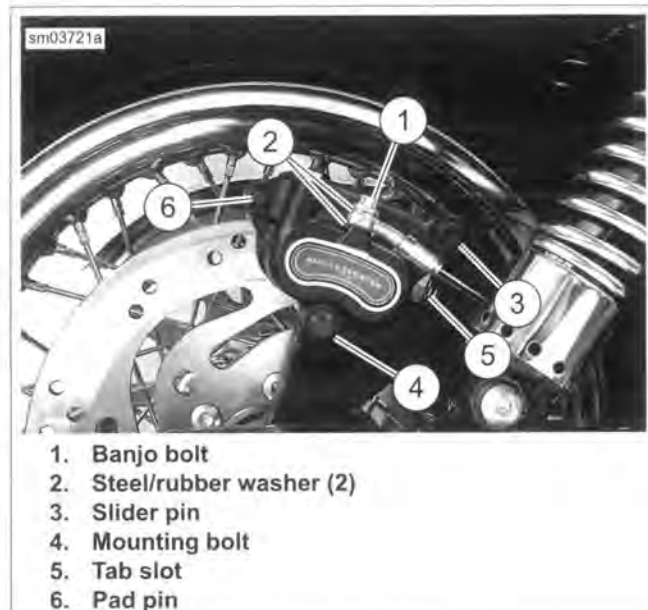

Figure 2-65. Rear Caliper
1. See Figure 2-65. Remove the banjo bolt (1) and both steel/rubber washers (2) to detach rear brake line from caliper. Discard washers.
2. Remove both the slider pin (3) and mounting bolt (4) (metric). Remove caliper assembly from brake disc.
3. See Figure 2-65. Install caliper with pads on caliper mount. Tighten slider pin (3) and mounting bolt (4) (metric) to 120-168 **in-lbs** (13.6-18.9 Nm). Verify tabs on brake pads engage tab slot (5) in caliper mount.